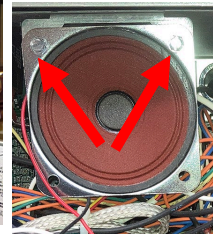

Figure 21
14. Remove the two (2) screws attaching the speaker to the bracket (see Figure 21).